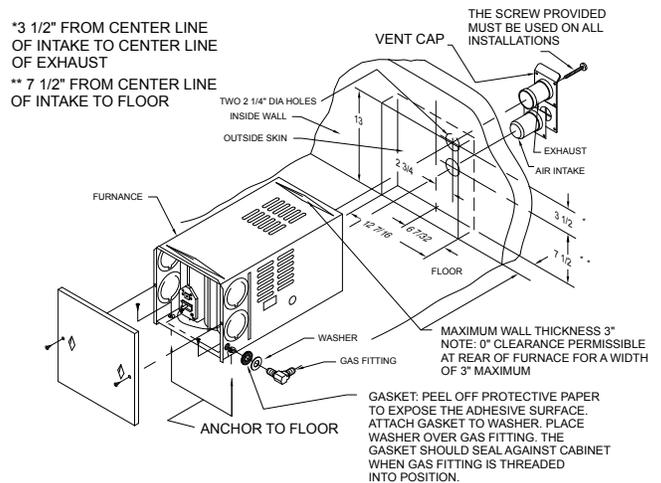

Figure 1
- Be sure that the gas fitting is outside of the furnace jacket and easily accessible. (See Figure 1.) The fitting may be connected directly to the 90° elbow at the gas inlet to the furnace. To assure an airtight seal, be sure the gasket provided with the furnace is installed between the fitting and the furnace cabinet, as illustrated in Figure 1. If this gasket is omitted, it could result in overheating of component parts within the furnace.